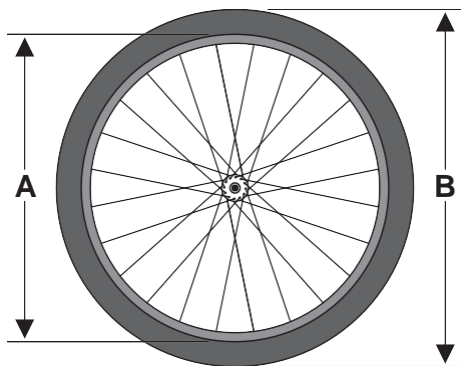
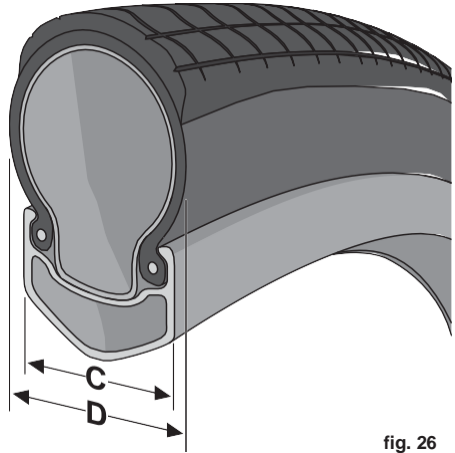

fig. 25
fig. 26
Wheel rims and tires come in a wide range of diameters (**fig. 25**) and widths (**fig. 26**). The nominal diameter of the rim (A) must match the nominal diameter of the tire (B), and the width of the rim (C) must be compatible with the width of